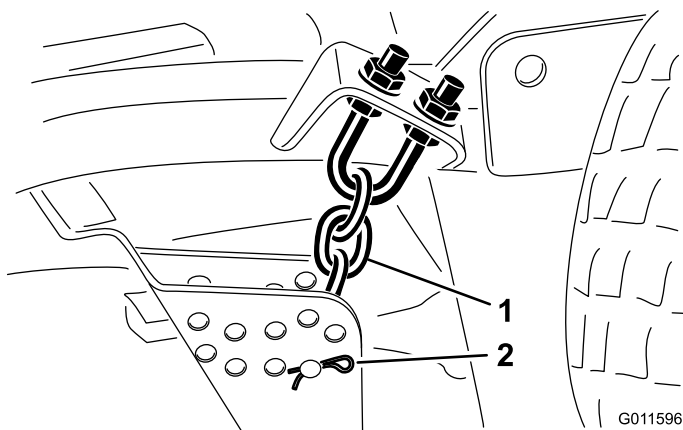

Figure 7
10. Remove the hair pin cotters and clevis pins securing the height-of-cut chains to the rear of the cutting unit (Figure 7).